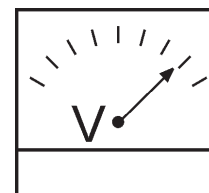

Figure 47. Voltmeter
- The generator's AC-voltmeter (Figure 47) will display the generator's output in **VOLTS**. If the voltage is not within the specified tolerance, use the voltage adjustment control knob (Figure 48) to increase or decrease the desired voltage.